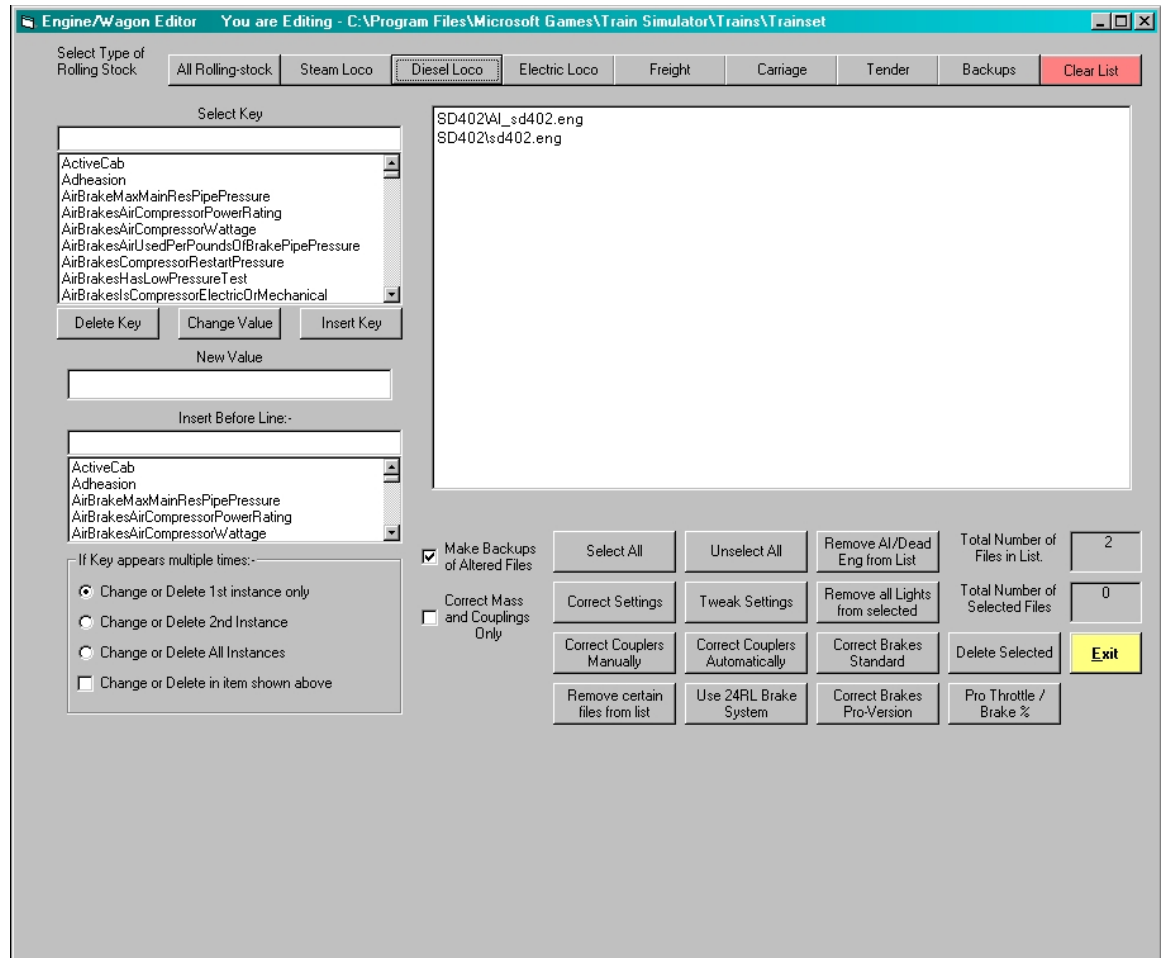

Figure 5
5. Left-click on the "Diesel Loco" Button. Your window should now look like Figure 5